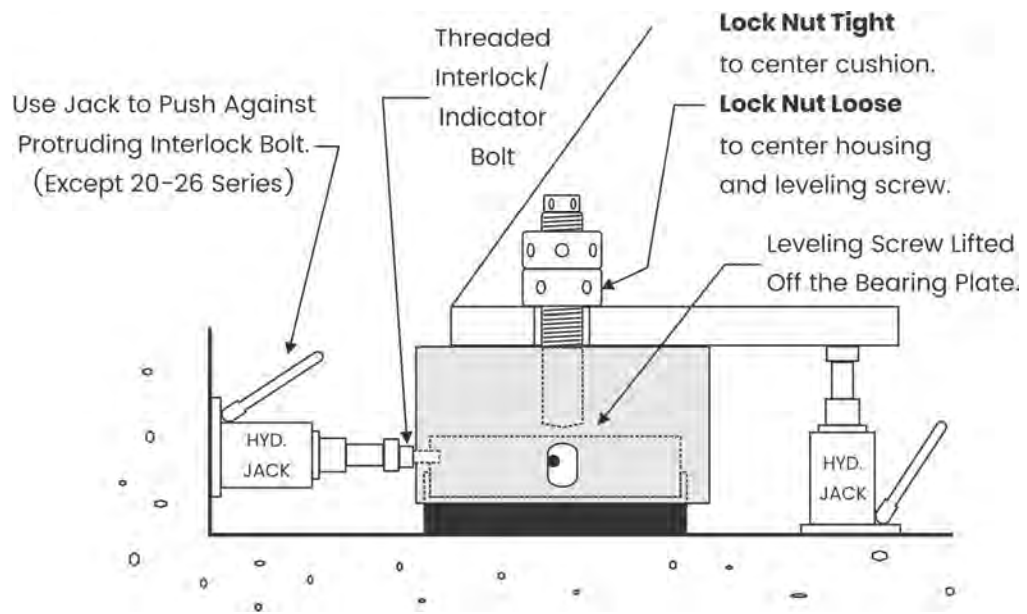

Figure 14
- Shift the entire isolator until the leveling screw is centered (concentric) in the machine's mounting hole. The method used in Figure 14 works best.